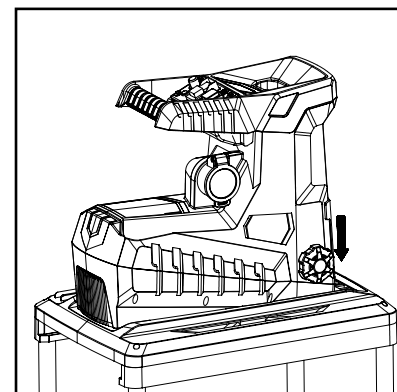
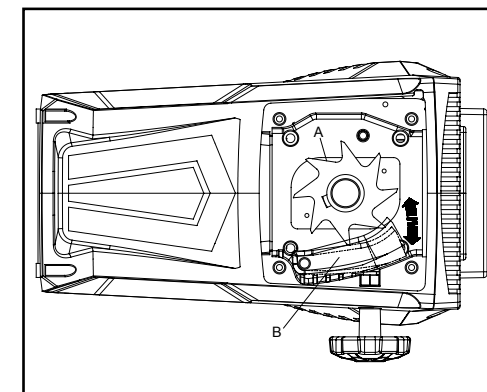

Fig. 14
Fig. 15
3. Screw on the knob (6) into the hole on side of housing (Fig. 14). Adjust it clockwise very slowly until feeling a resistance or hearing a light grinding sound - chopping roller (A) touches the pressure plate (B), and some small aluminium shavings fall out of the discharge chute (Fig. 15).